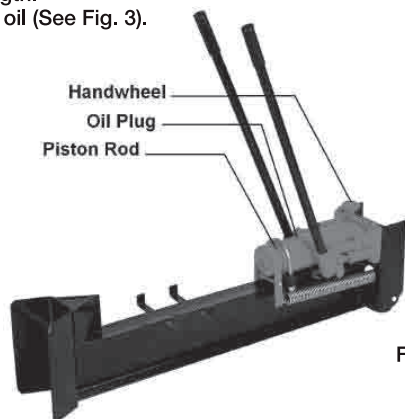

Fig. 3
2. Remove the oil Plug and top off the oil (See Fig. 3).